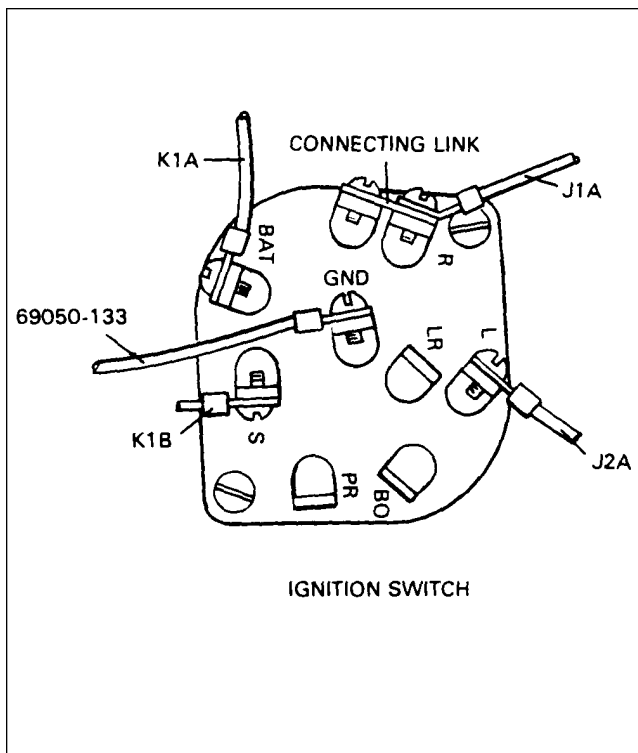

Figure 74-29. Archer II Ignition Switch Installation
- (1) Connect wires to ignition switch as shown in Figure 74-29.
- (2) Check for proper operation of ignition switch as follows:
- (3) Position ignition switch in instrument panel and install retaining nut.
- (4) Connect power lead to battery.